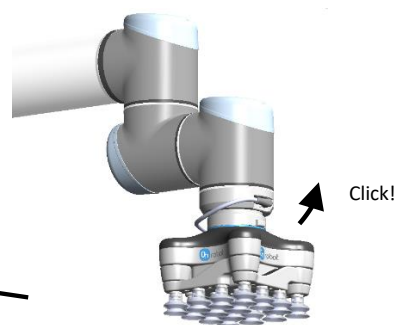

Figure 1.3
- The cable fits smoothly 270° around the VG10 and tool changer (See Figure 1.3)